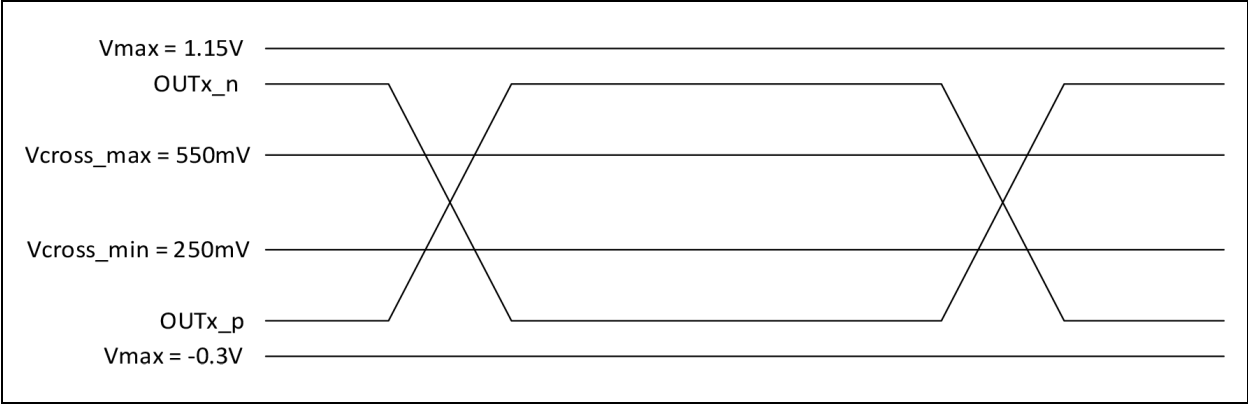

FIGURE 3-1: Single-Ended Measurement Points for Absolute Cross Point and Swing.
- 5:** Measured at crossing point where the instantaneous voltage value of the rising edge of CK equals the falling edge of CK#. See Figure 3-1.
- 6:** Refers to the total variation from the lowest crossing point to the highest, regardless of which edge is crossing. Refers to all crossing points for this measurement. See Figure 3-1.
- 8:** Defined as the maximum instantaneous voltage including overshoot. See Figure 3-1.
- 9:** Defined as the minimum instantaneous voltage including undershoot. See Figure 3-1.